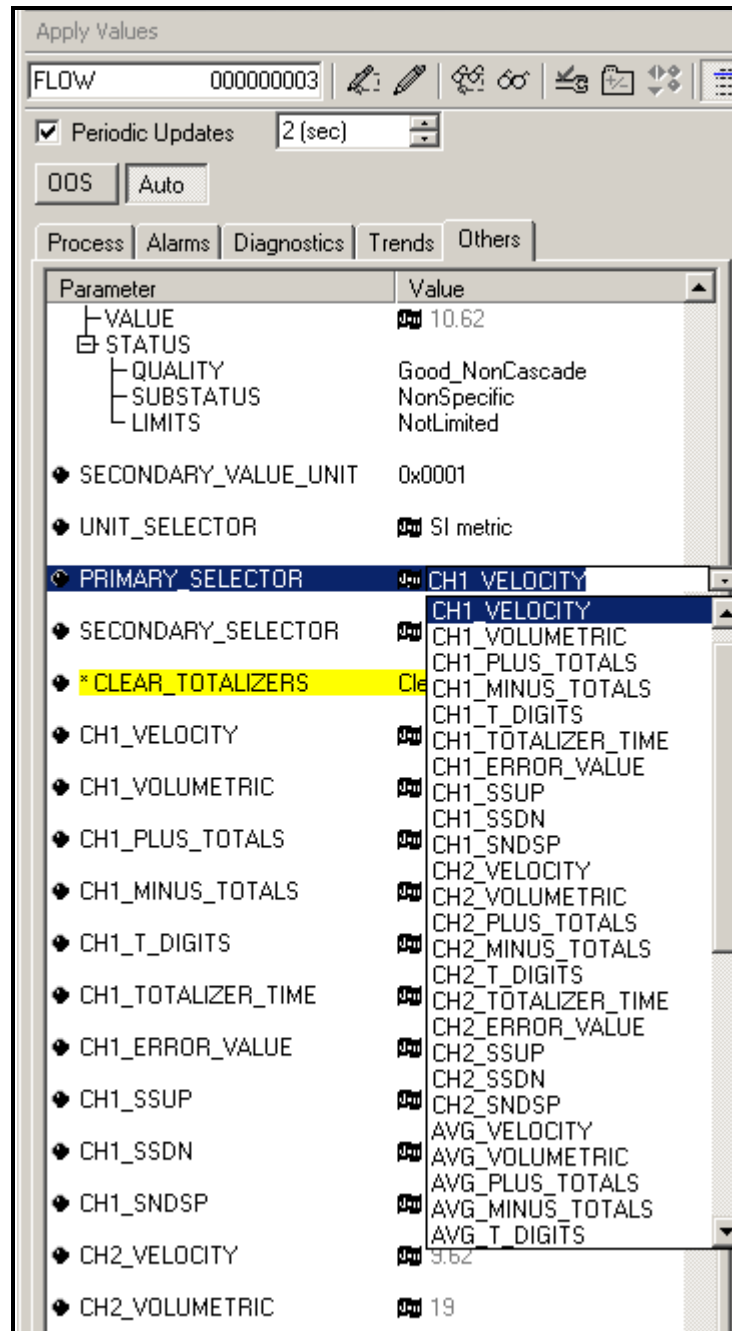

Figure 59: Primary Selector Drop Down List
2. Select the **Others** tab and open the drop down list for the PRIMARY\_SELECTOR and SECONDARY\_SELECTOR (refer to Figure 59 on page 79).
3. Choose the unit from the list (see Figure 59 on page 79).